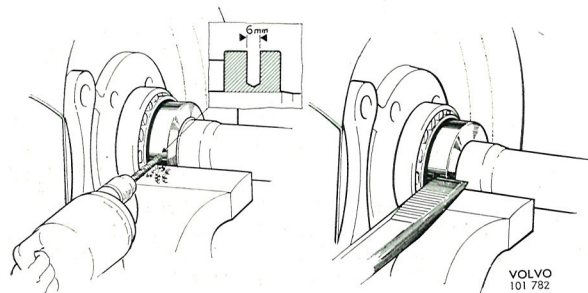

Fig. 4-80. Removing the lock ring
6. Drill a 6 mm (1/4") hole in the lock ring according to Fig. 4-80. Do not drill to such a depth as to damage the shaft. Split the ring with a chisel. N. B. Apply the chisel to the outer edge of the ring so as not to damage the bearing. Loosen the shaft from the vice and remove the lock ring.